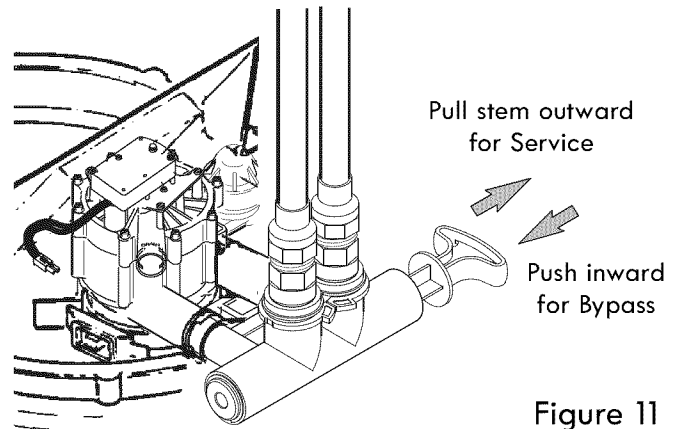
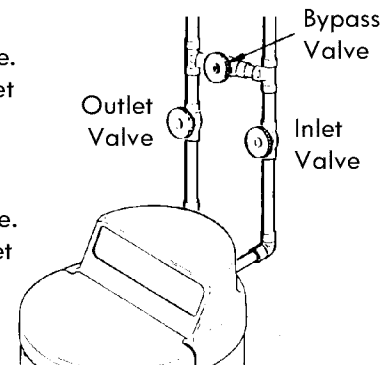

Figure 11
Figure 12
If you installed a 3-valve bypass system (Fig. 12), electrical continuity will be maintained. If you installed the non-metallic bypass valve (Fig. 11), restore the ground as follows:
3. Place bypass valve(s) in "bypass" position (see Figures 11 & 12). On a single valve, slide the stem inward to bypass. On a 3-valve bypass, close the inlet and outlet valves and open the bypass valve.